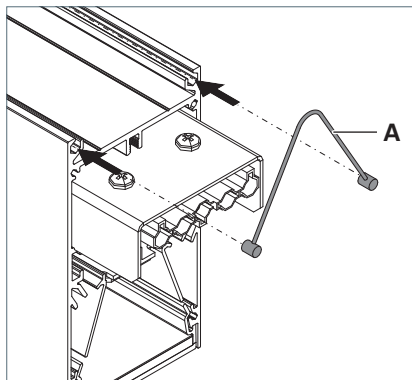

Fig. 11: Hanging wire rope into luminaire.
- Insert the ends of the wire rope **A** into the guides on the top of the luminaire, see Fig. 11.